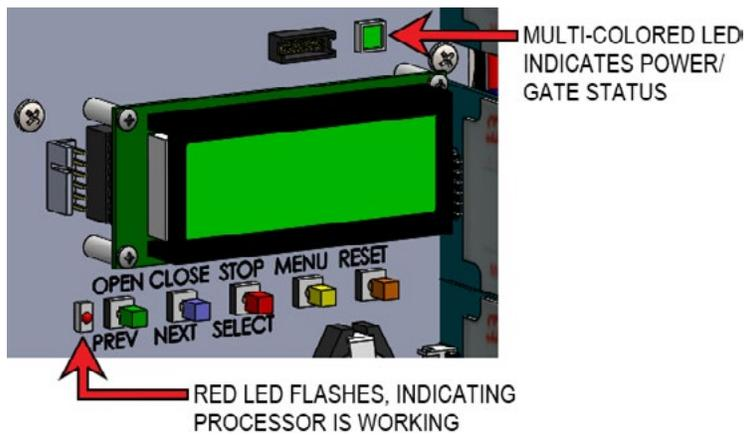

Figure 23. LED Indicators
- Not lit - AC power is lost. Pressing the SHOW LEDs button indicates which inputs, if any are active. Refer to Figure 23 for SHOW LEDs location on board.